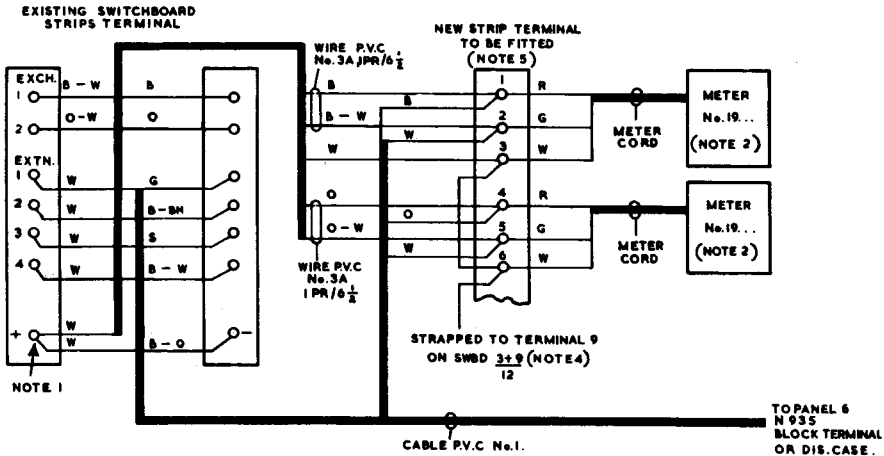

FIG. 3 CABLING FOR SWBD  $\frac{2+4}{6}$  AND  $\frac{3+9}{12}$  (NOTE 4)
4. Cabling arrangements shown in Fig. 3 are for Switchboard CB 935  $\frac{2+4}{6}$ . For Switchboard  $\frac{3+9}{12}$  wire in a similar manner using wire P.V.C. No. 3A, 1 pair 6 1/2 Green, Green-White between terminals 7 & 8 on the new Terminal Strip and the third Exchange Line terminals and terminate the third Exchange Line on terminals 7 & 8 of new Terminal Strip.